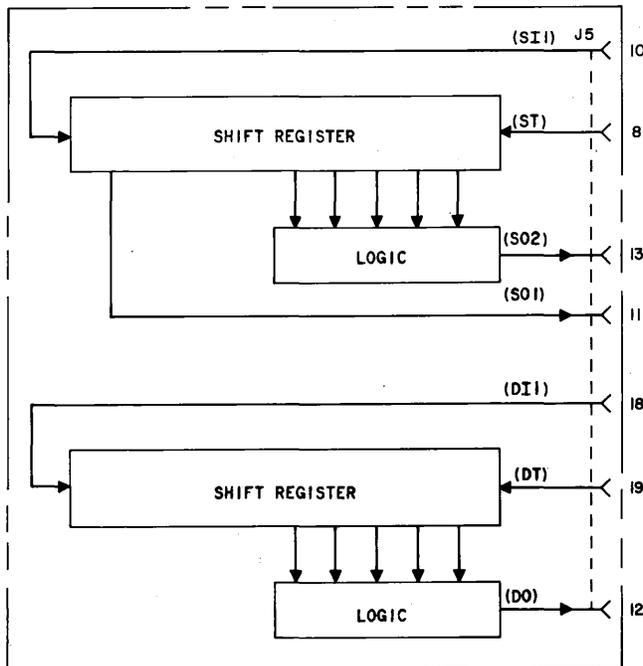

Fig. 15—Scrambler-Descrambler, Block Diagram
**3.75** The transmitted signal enters the scrambler-descrambler over the S11 lead (Fig. 15). In the shift register, the signal is scrambled and leaves the scrambler via the SO1 and SO2 leads. The ST lead supplies the clock to the scrambler. In the receiving path, the received